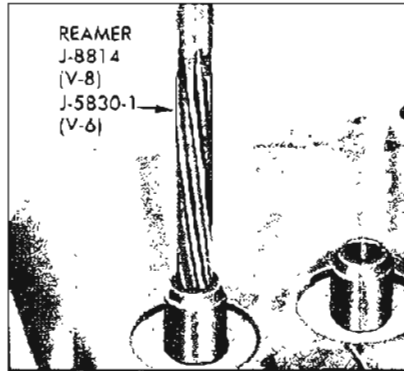

Figure 2-20—Reaming Valve Guide
8. If a V-6 valve stem has excessive clearance in its guide, the guide must be reamed .004" over-size, using Reamer J-5830-1. See Figure 2-20. .004" over-size valves are available through the Parts Department.